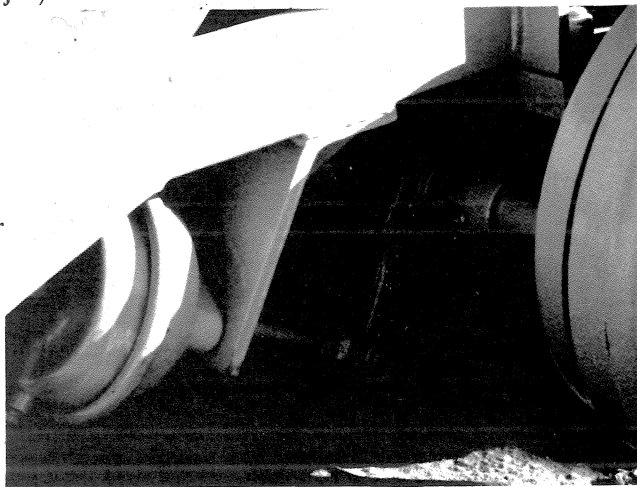

Figure J-1
**BRAKE CHAMBERS** — Transform the energy of compressed air into the mechanical force and motion necessary to apply the brakes. One of these units is used to operate the brakes on each wheel (Figure J-1).
**SLACK ADJUSTERS** — Provide a quick and easy method of adjusting the brakes to compensate for brake lining wear. One slack adjuster is used for the brakes on each wheel (Figure J-1).
Slack adjusters provide a quick, easy method for adjusting brakes to compensate for brake lining wear (Figure J-1). Slack adjusters are designed for the needs of heavy-duty, two-shoe foundation brakes.